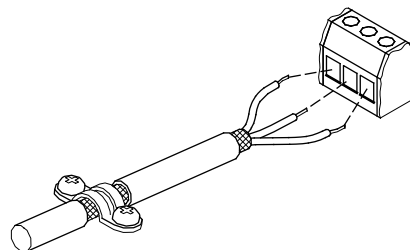

Fig. 20 Stripped cable with screen and wire connections
- Connect the screens of the cable to frame at both ends with good connection. The screens must be as close as possible to the terminals. See fig. 20.